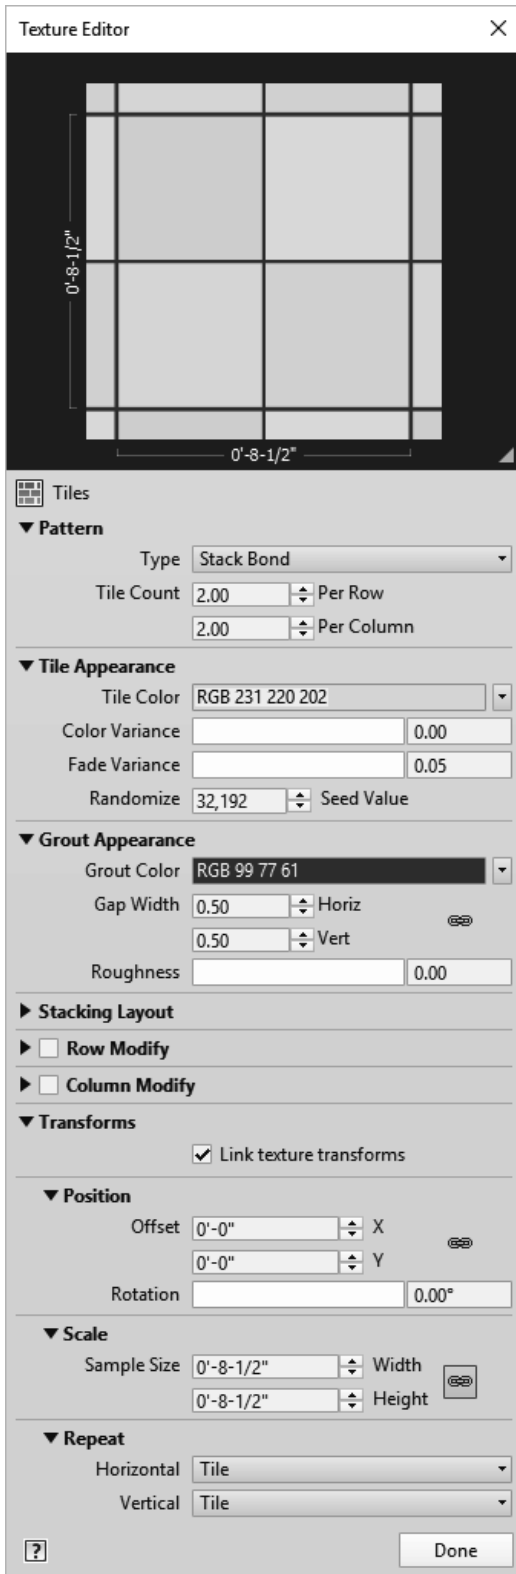

FIGURE 4-4.5 Texture editor
You are now in the *Texture Editor* shown in Figure 4-4.5. Here you can adjust all sorts of settings related to how the tile pattern should appear. One of the adjustments one can make is the tile pattern. Is the pattern stack bond, running bond, common flemish bond, etc.? You can even adjust the grout color and size.
22. Make the adjustments shown in Figure 4-4.5.